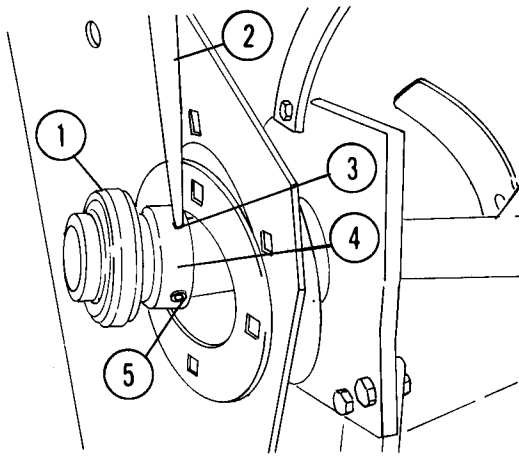

Fig. 28 — Left-Hand Tine Shaft End
4. Loosen set screw holding the locking collar on the left side of shaft, Figure 28. Using a hammer andn punch tap the locking collar opposite the rotation of tine shaft until it comes loose from bearing, Figure 28.